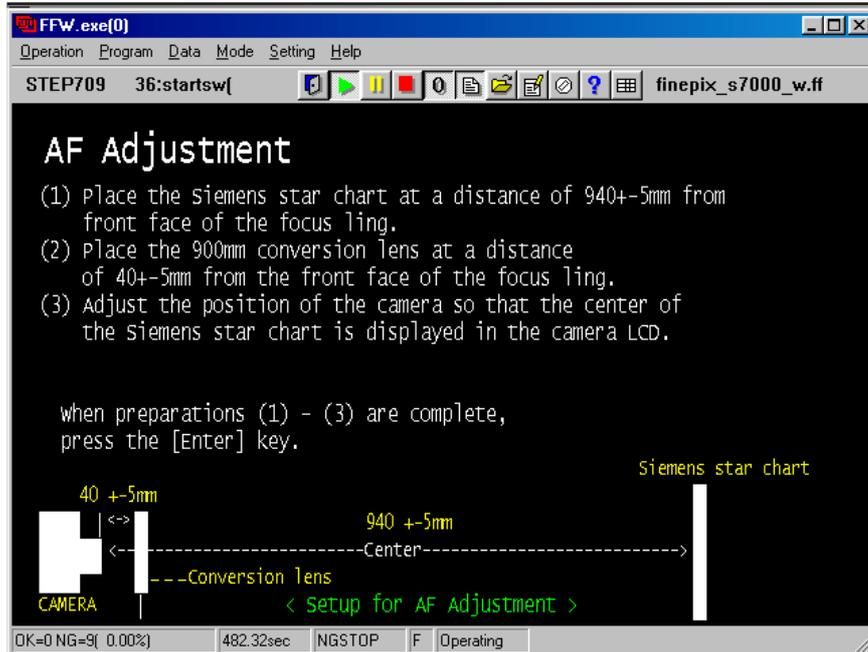

Fig.23
--->The [AF Adjustment Start screen(Fig23)] appears.